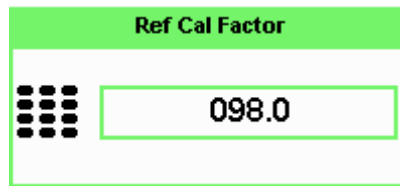

Figure 7-3 Reference Calibration Factor pop-up window
- 4** To change the settings, press the channel **REF CF** . The reference calibration factor pop up window is displayed as shown in Figure 7-3. Use the numeric keypad to enter the required value in the **Ref Cal Factor** pop-up menu.